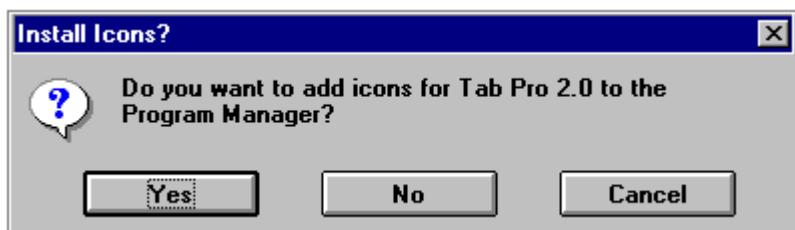

FIGURE 39. TabPro Install Icons Dialog
- 8.73 Touch the 'No' button on the 'Install Icons?' dialog. See Figure 39.